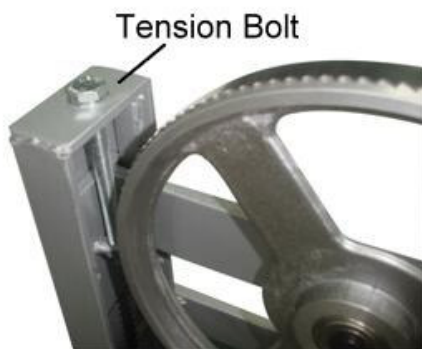
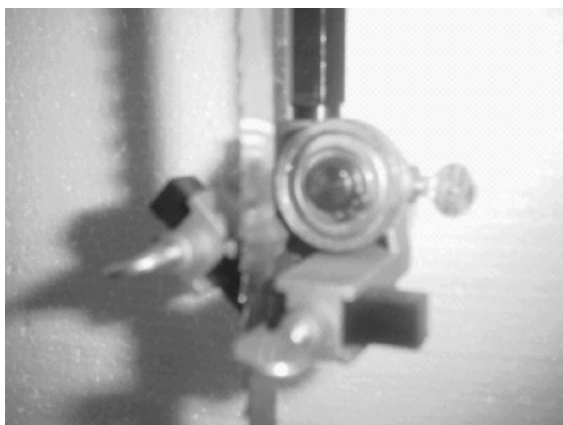

Fig.19
Fig.20
2. Turn the tension bolt to adjust the tension or increase the tension as shown in (Fig. 19) & (Fig.20) (Fig.20-1).